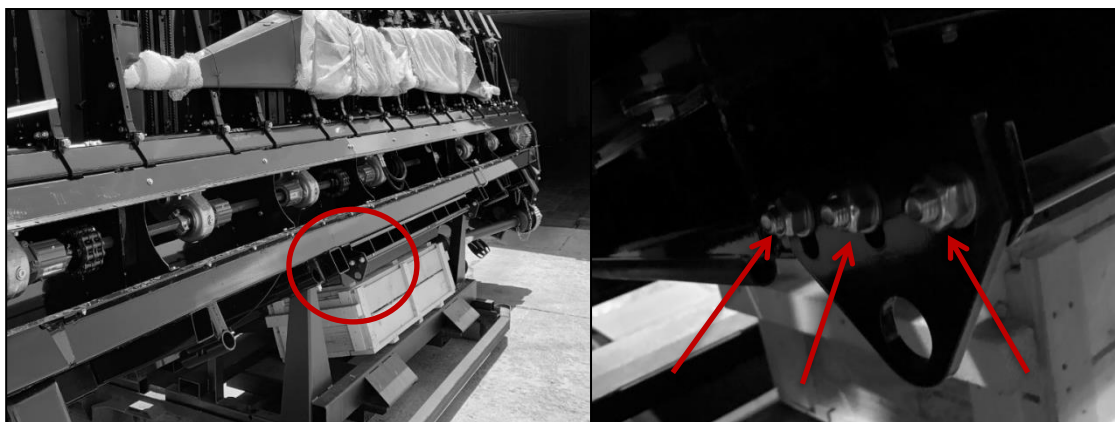

Figure 6: John Deere header latch (left), and latch adjustment hardware (right).
6.1.2. Loosen hardware, adjust plates as needed to engage lock, and retighten hardware (John Deere, Figure 6).